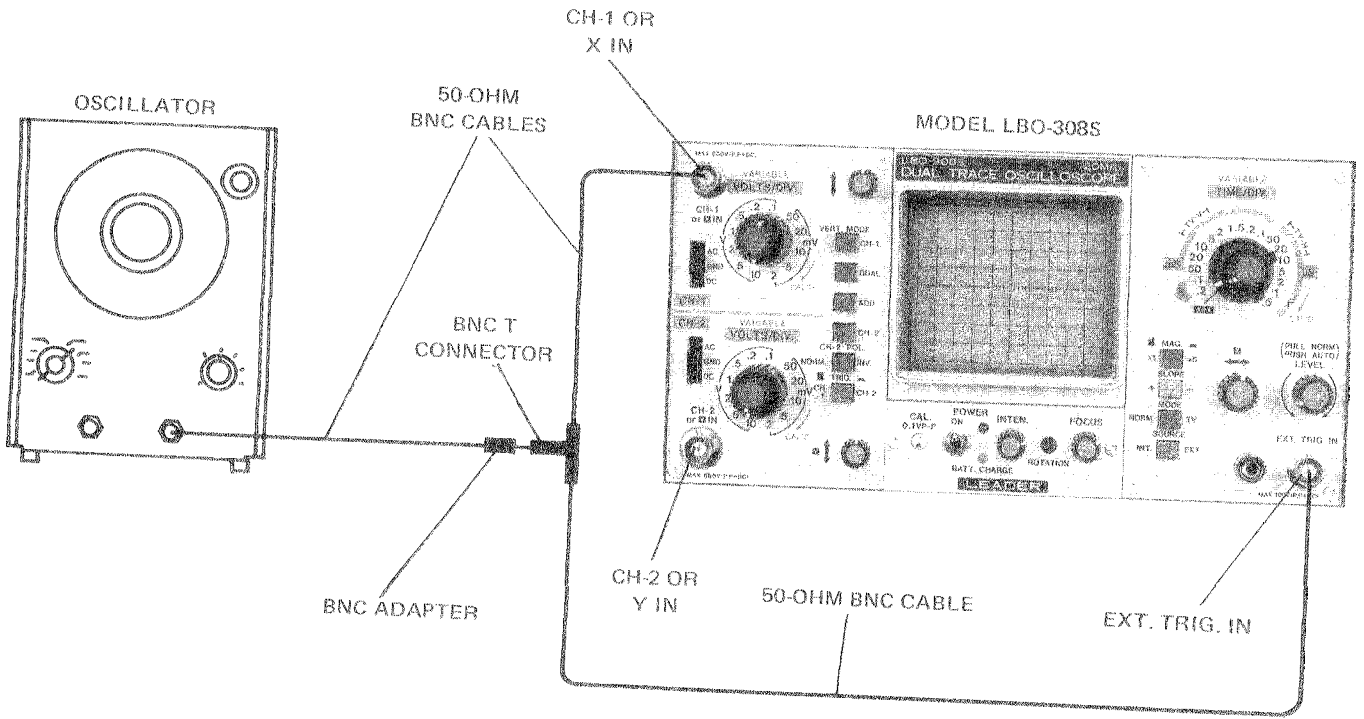

Figure 3-3. 50-Hz Triggering Test Setup
a. Connect equipment as shown in Figure 3-3.